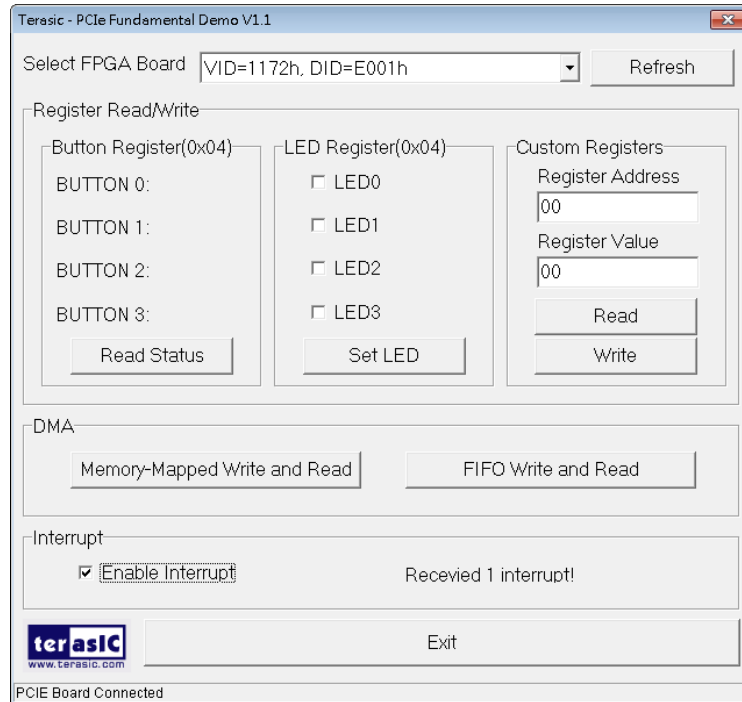

Figure 7-12 Program GUI of PCIe Fundamental Demo
- Launch the demo program PCIE_Fundamental_Demo.exe shown in **Figure 7-12**.